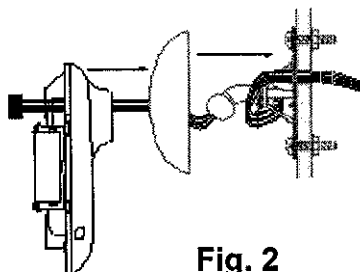

Fig. 2
6. Connect low voltage wires from the control unit to sensor wiring harness with wire nuts. Snap bracket cover into place to conceal wiring and bracket. Feed wiring harness through the back of the sensor body and out the exit slot as shown in Fig. 2 below.